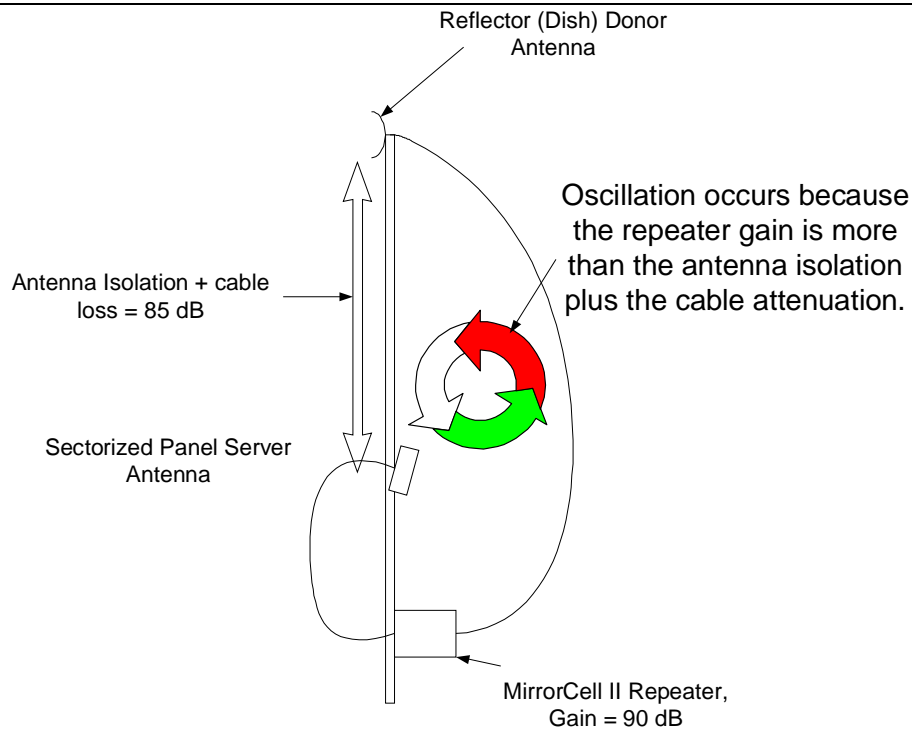

Figure 4: Example of Repeater Oscillation
- Figure 4: Example of Repeater Oscillation
Proper selection of the repeater's donor and server antennas is crucial in designing the repeater system. The most important parameter to be concerned with is *antenna isolation*. This is a measure of the ability of the donor and server antennas to avoid receiving each other's signals. Remember, the repeater is simultaneously transmitting and receiving on each of the uplink and downlink frequency bands. For this to happen successfully, the two antennas must be well isolated from each other, or excessive signal levels from one antenna will be received by the other antenna. This sets up a feedback loop, and oscillation begins. An example of this is shown in Figure 4 below: